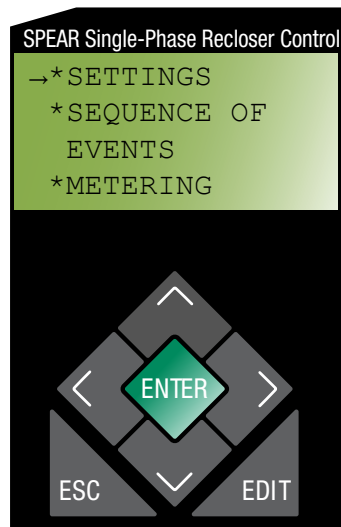

Figure 37. LCD display and cursor movement arrows.
4. Verify the Control OK LED is illuminated on the control operator panel. The AC POWER LED indicates the presence of AC power (Figure 37).
- During a battery test a 5Ω, 55 watt resistor is placed across the battery terminals for approximately 5 seconds. The SPEAR single-phase recloser control measures the battery voltage, if the voltage drops below 22.8 VDC the BATTERY LED illuminates (Figure 37) and a battery alarm is issued, if configured, at the end of the test.